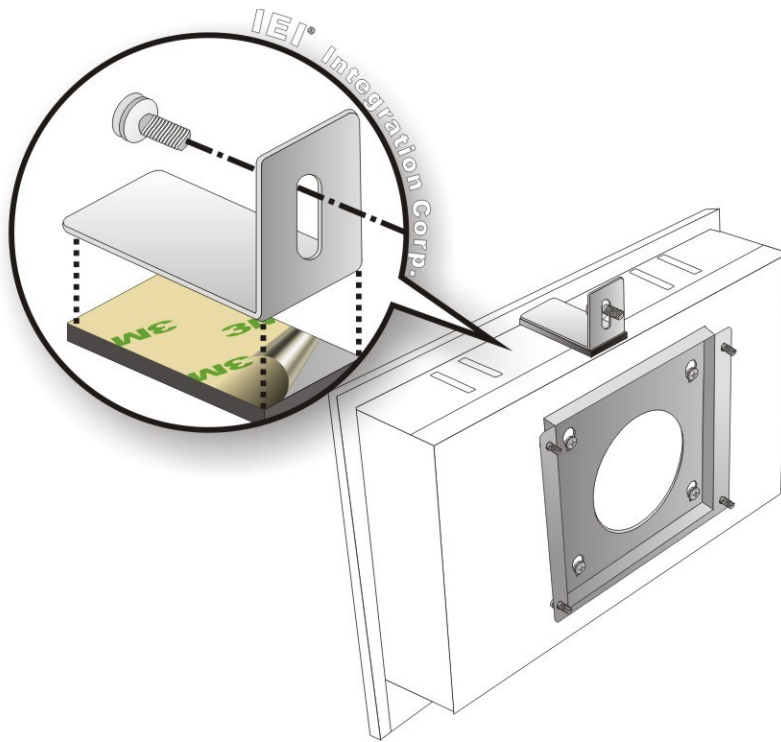

Figure 3-12: Secure the Chassis
Step 9: Secure the panel PC with the wall-mounting kit. To do this, stick the protective cushion to the wall-mounting kit first. Then, put the wall-mounting kit on the top panel of the panel PC. Carefully mark the location of the wall-mounting kit screw holes on the wall. Drill a pilot hole at the marked location on the wall. Secure the wall-mounting kit to the wall by inserting a retention screw into the pilot hole on the wall (**Figure 3-12**). This step is to avoid the panel PC being pushed apart from the wall-mounting bracket accidentally.